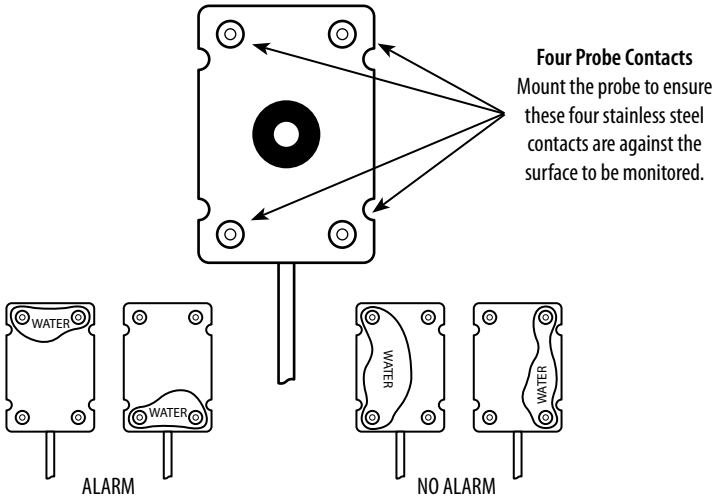

Figure 2
**Note:** When connecting DC power to the WB-200 be sure to observe polarity and test to see if the WB-200 is operating properly. This may be done by forming a water bridge between two of the metallic contacts located on the probe (See Figure 2) with a moistened finger or cloth. If the WB-200 is not operating properly, check the polarity of the power supply connections.
To test the WB-200 operational status, form a water bridge between the two metallic contact points (See Figure 2) with a moistened finger or cloth. If working properly, the WB-200 will activate the warning device to which it is connected within approximately three seconds. The WB-200 will reset automatically when the probe dries and there is no longer a water bridge between the two metallic contact points.